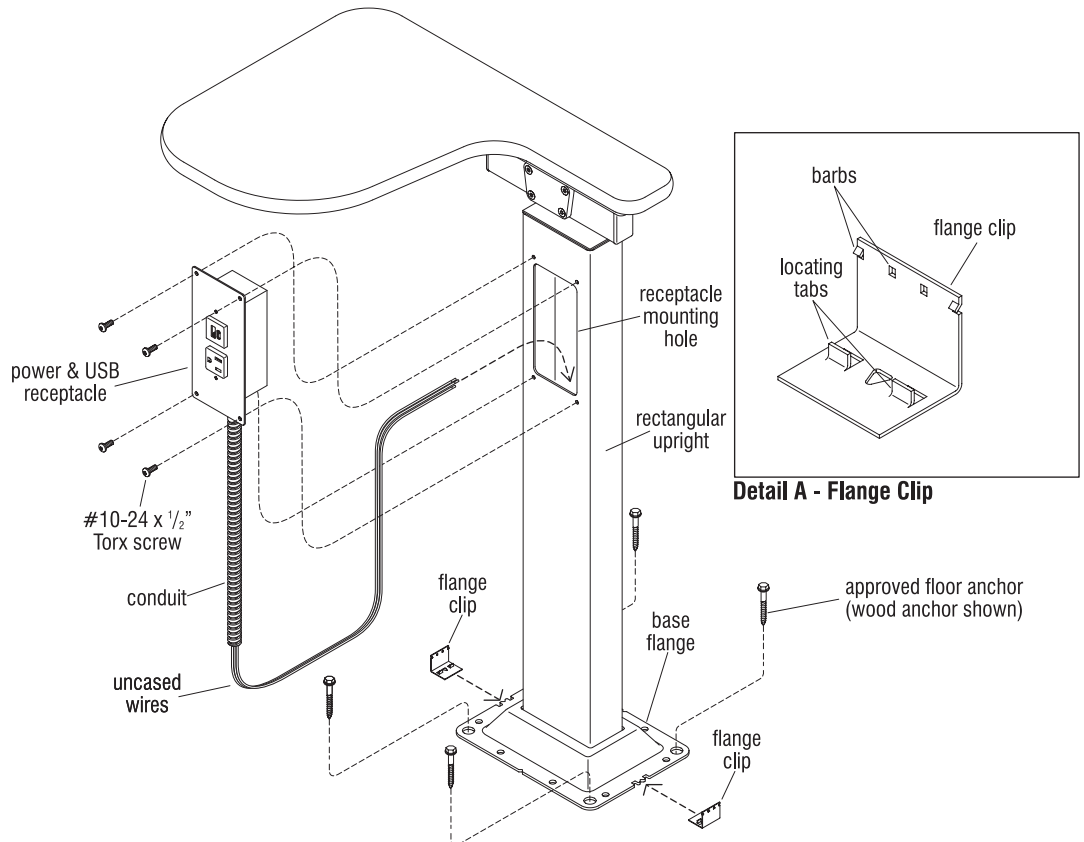

Figure 1
2. Bore anchor holes to required hole depth for floor-type specific floor anchors See pages 2 through 5 for anchor information. Locate base over pre-drilled holes and drive in (do not tighten) mounting anchors. **Shim under base flange with steel washer(s) as needed to level or compensate for floor variances.** (Figure 1).
3. Center flange clips under both sides of base flanges, with the barbs up. Insert the locating tabs of the flange so that they are tight into the base flange notches for proper engagement of flange covers later. After all bases are positioned and adjusted with shims, securely tighten base flanges to the floor. Do not install plastic flange covers at this time (Figure 1 & Detail A).